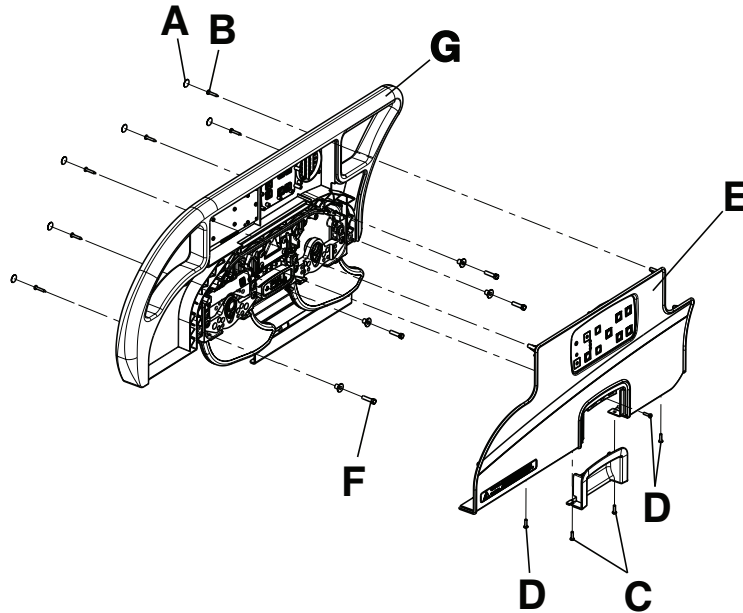

Figure 66 – Replacing the siderail hoop
2. Remove the six labels (A) on the inside of the siderail (Figure 66).
3. Remove the six pan head screws (B) from the siderail panel.
4. Remove the two pan head screws (C) that secure the handle casing to the panel. Pull down on the handle to remove.
5. Remove the three pan head screws (D) to remove the outer siderail panel (E).
10. Using a 7/16" socket, remove the four screws (F) that secure the head siderail hoop (G) to the siderail support assembly.